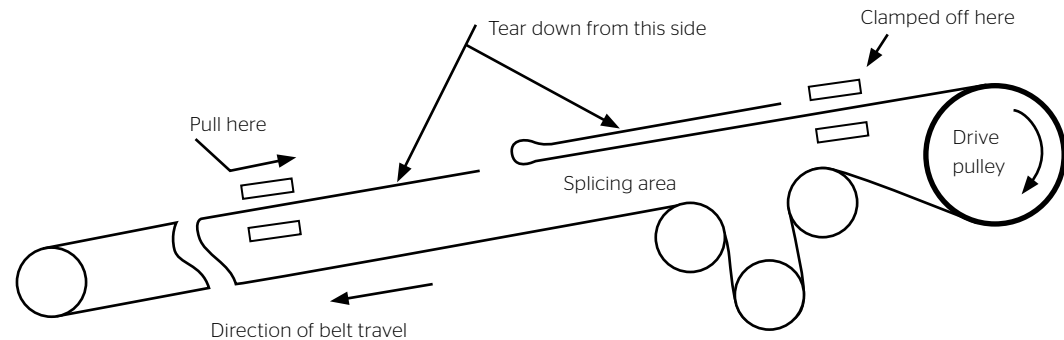

Fig. 3-5: Splice Direction - Incline (Power-requiring)
1. In most level or inclined (power-requiring) belts, it is recommended that the belt ends be stepped down so that the pulley side joint leads and the top side joint trails the direction of belt travel (Fig. 3-5).